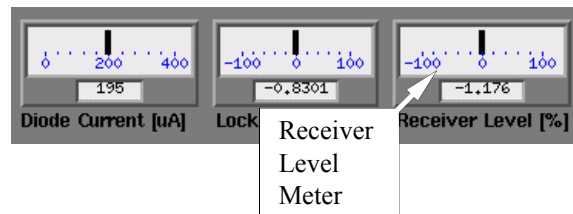

Figure 17-13 Monitoring the Receiver Gain.
19. **Adjust the Receiver Gain.** Monitor the Receiver Level while the scan is running. (See Figure 17-13.)